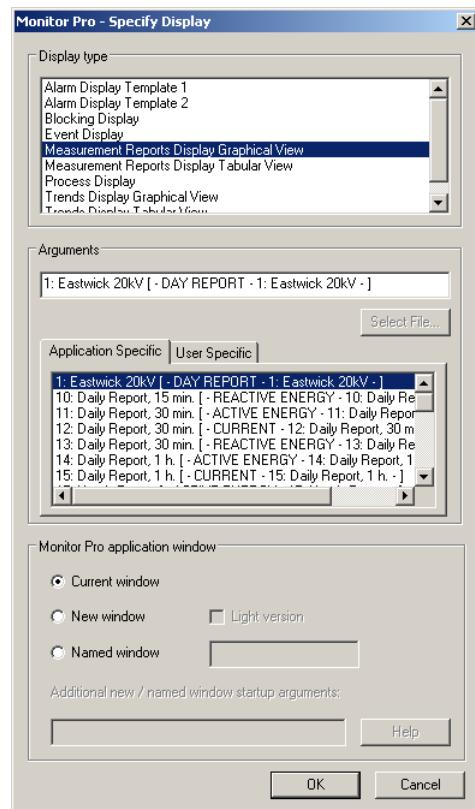

Figure 216: Specifying an opened display
3. The **Specify Display** dialog opens. See Figure 216.